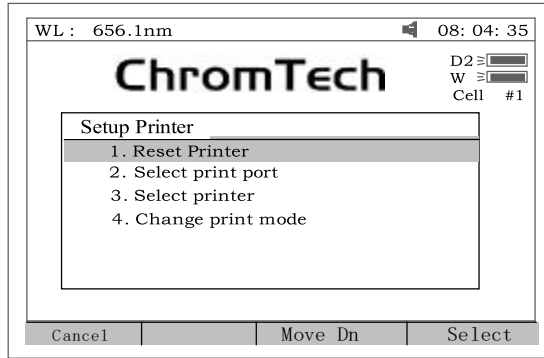
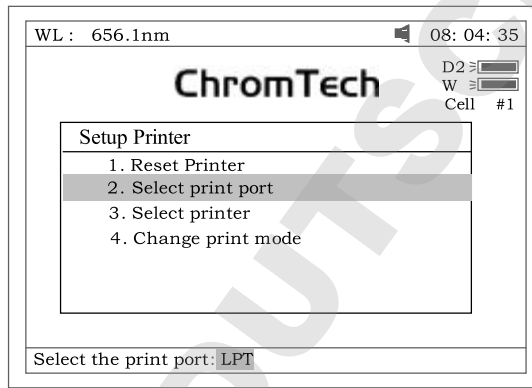
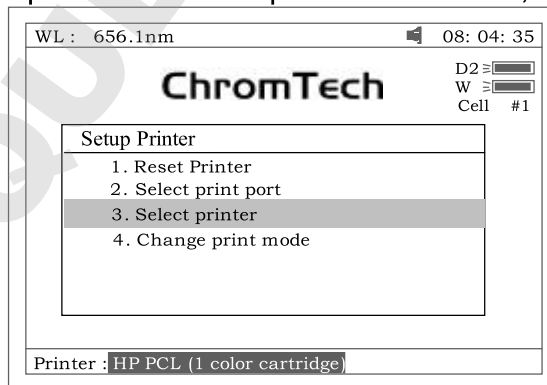
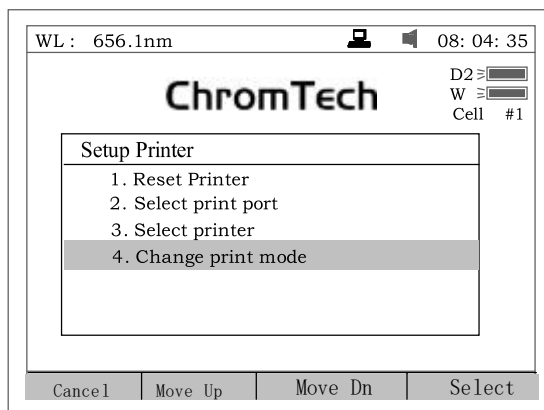

Fig 74
Fig 75
Fig 76
Fig77
Press **[2]** to set printer (Fig 74). **[ESC]** to exit.
1. Press **1** in Fig 74 to Reset Printer.
2. Press **2** in Fig 74 to select print port (LPT or Comm., Fig 75).
3. Press **3** in Fig 74 to select printer (HP PCL (1 color cartridge), PCL (black mode), Epson ESC/P or Epson/P2 or above, Fig76).
4. Press **4** in Fig 74 to change print mode. The first time **4** be pressed, a little icon will be displayed on the top line of the screen (Fig 77). At this mode, When **Print** be pressed, all the items on the screen will be printed. The second time **4** be pressed, the little icon will disappear. At this mode, when **Print** be pressed, a test report will be printed.